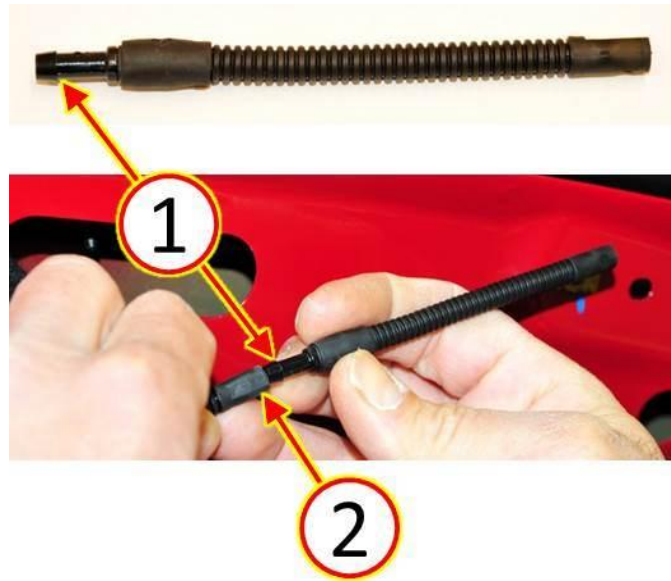

Fig. 4 Install Washer Fluid Hose Check Valve
6. Connect the barbed end of the check valve assembly (1) to the window washer fluid hose (2) then check for full hose engagement on the check valve(Fig. 4).